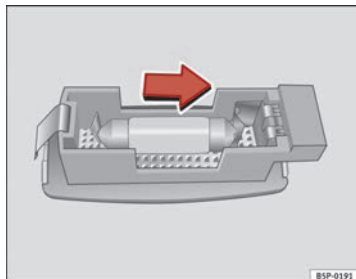

Fig. 200 Removing sun visor light
- Carefully remove the lamp, using the flat side of a screwdriver, as shown in the figure ⇒ Fig. 200.
- Remove the bulb, moving it in the direction of the arrow and outwards ⇒ Fig. 200.